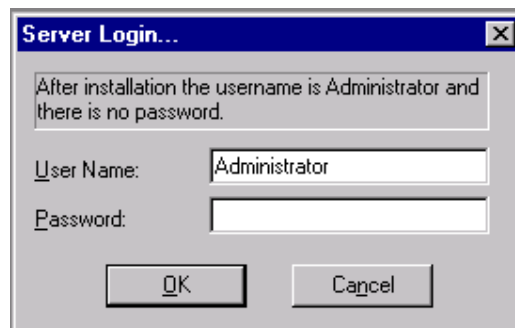

Figure 3-4. Server Login Dialog Box
11. After opening SNMPc, the **Server Login** dialog box appears notifying you that you have created one Administrator, with no password (see Figure 3-4).